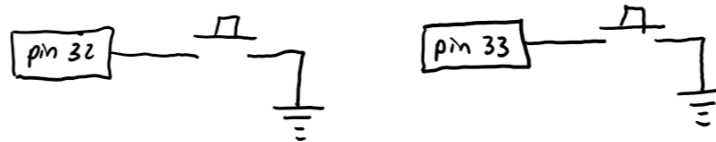

Figure 3: Circuits for the buttons using internal pullups.
2. Build two button circuits, as shown in Figure 3. To save space, we'll use a nice feature of the ESP32, namely internal pullups. To do so, you declare the pin mode as follows: